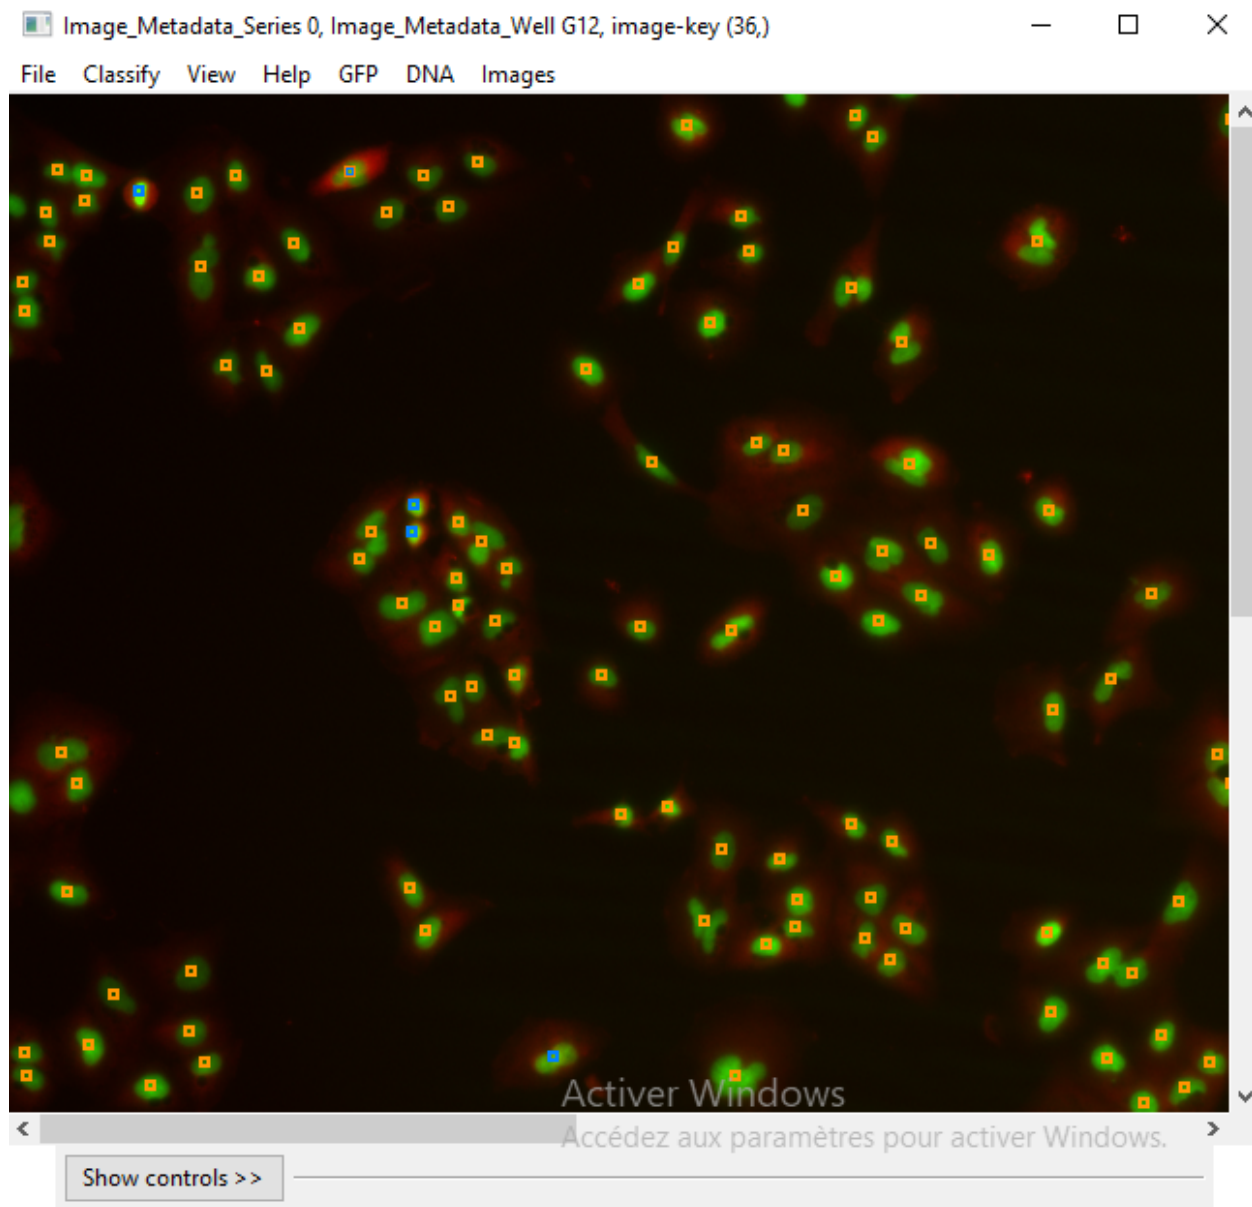

Figure 4: Classify the image
- a) Double-click any of cell thumbnails in the positive or negative bins. From the image that opens click on *Classify Image* (Figure 4).